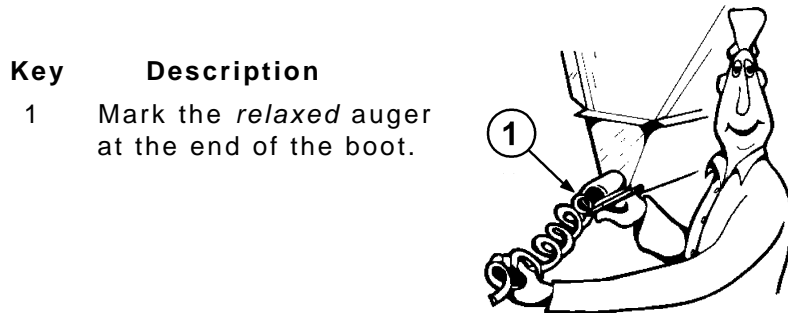

Figure 47. Measure the Auger from the *relaxed* position.
- Pull the auger at the boot end until it begins stretching. Then let it relax. In the *relaxed* position, mark the auger at the end of the boot. See **Figure 47**.